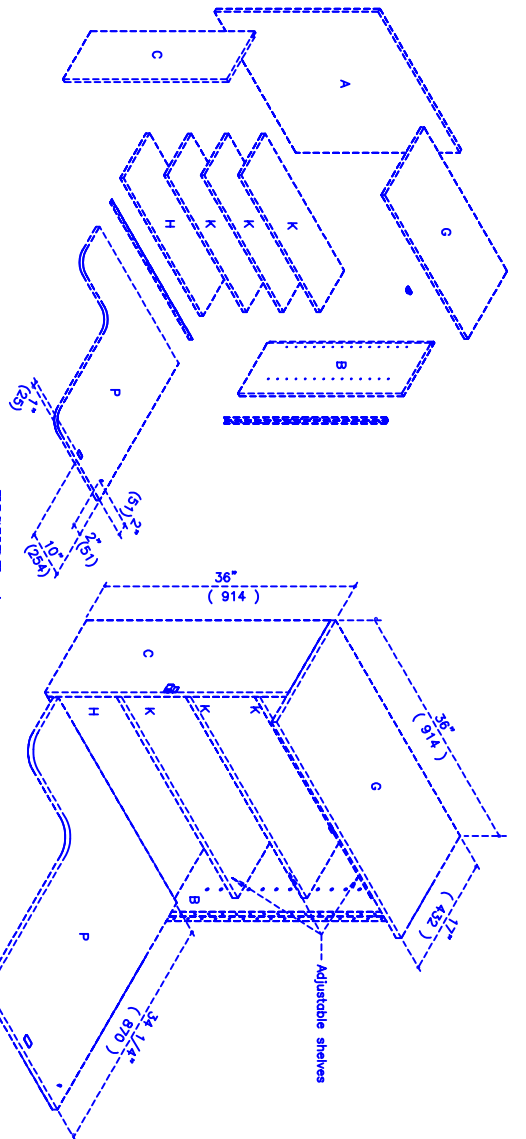

FIGURE 4
- 3) Screw the bottom piano hinge onto the end of piece P centered on P. Plan the hinge pin portion just inside the top edge of P (Fig. 15), with piece P and piano hinge spaced the same as shown. Then, separate the front edge of piece C when folded. Dry fit piece P to check for fit. Attach P to H by attaching the hinge already on P with the hinge hardware to H. Attach the side piano hinge to the edge of B as shown (Fig. 4) with the hinge pin protruding slightly past the outside edge of B. Ensure the unit is square, and set aside to dry.